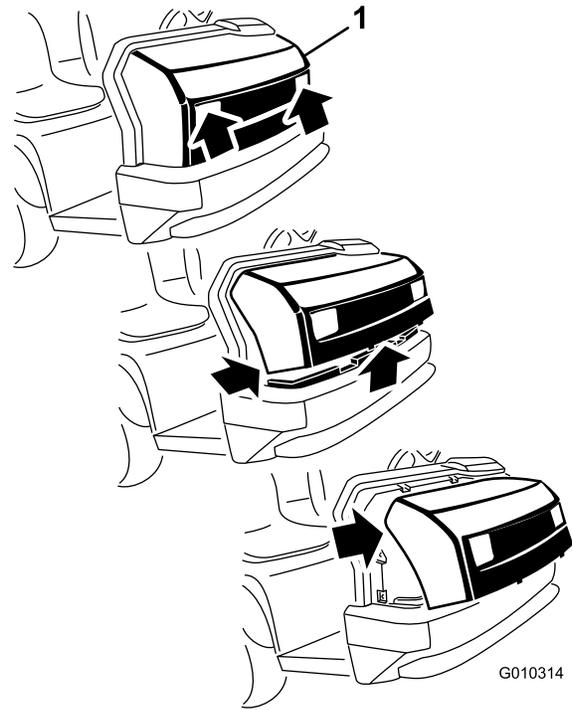

Figure 39
1. While grasping the hood in the headlight openings, lift up on the hood to release the lower mounting tabs from the frame slots (Figure 39).
2. Pivot the bottom of the hood upward until the top mounting tabs can be pulled from the frame slots (Figure 39).
3. Pivot the top of hood forward and unplug the wire connectors from the head lights (Figure 39).